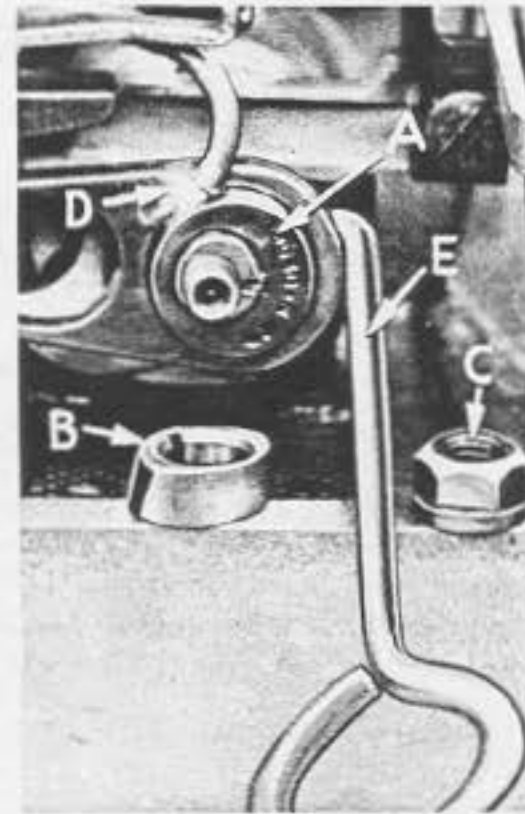

Fig. 13
In assembling feed eccentric (A, Fig. 13) be sure hub side of eccentric is placed on the right. Hub side of feed eccentric spacer and oil slinger (B) should be to the left. Be careful not to damage shaft or key. Tighten nut (C) securely. Be sure wool yarn in oil tube (D) touches feed eccentric spacer and oil slinger (B).